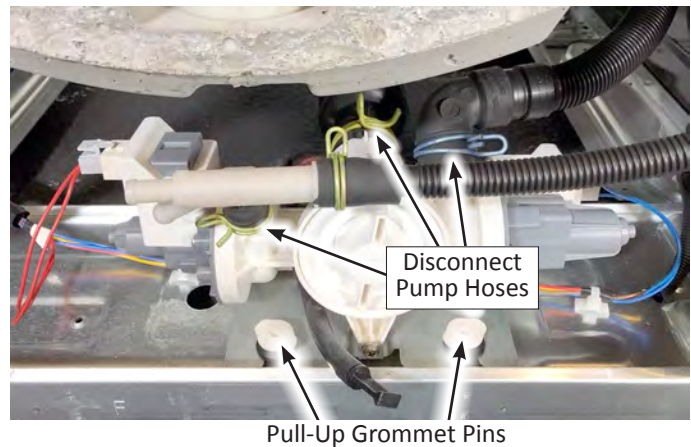

Figure 2
9. Slide off hose clamps and remove the recirculation pump hose, the drain hose, and the tub to pump hose (see Figure 2).
10. Pull up on the four (4) grommet pins to disengage pump from washer (see Figure 2). Remove the Drain/Recirculation Pump assembly.